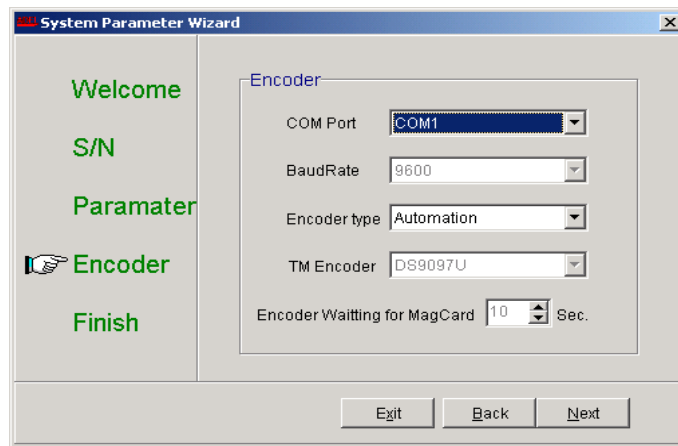

Figure 2-5
- Click **Next** button. Figure 2-5 appears.